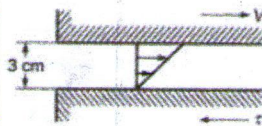

Fig. 1.2
1.4 The space between two parallel plates kept 3 mm apart is filled with an oil of dynamic viscosity 0.2 Pa.s. What is the shear stress on the lower fixed plate, if the upper one is moved with a velocity of 1.50 m/s? (Refer Fig 1.2).